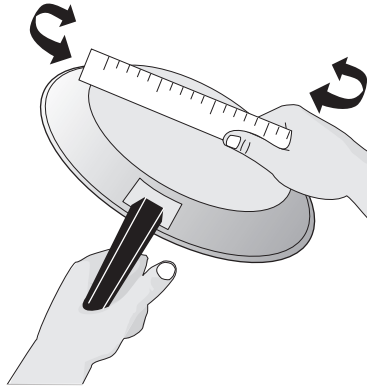
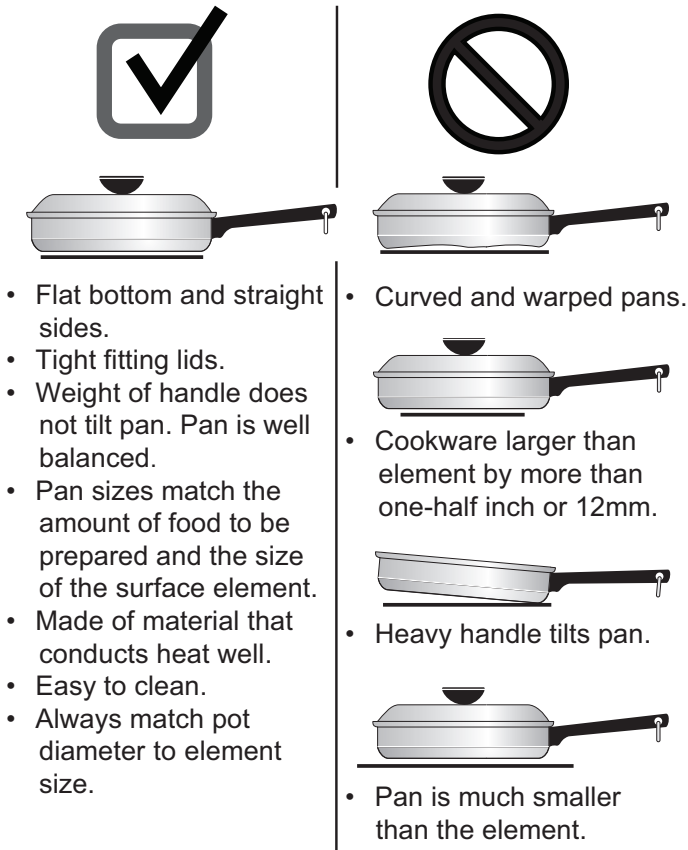

Figure 1: Testing cookware
Figure 2: Proper cookware
The size and type of cookware used will influence the heat setting needed for best cooking results. Be sure to follow the recommendations for using proper cookware as illustrated in “Figure 1: Testing cookware” and “Figure 2: Proper cookware”.
Check for flatness by rotating a ruler across the bottom of the cookware (see “Figure 1: Testing cookware”). Cookware should have flat bottoms that make good contact with the entire surface of the heating element.
2. Push in and turn the surface control knob in either direction (Figure 1) to the desired setting (refer to the “Suggested radiant surface element settings” in Table 1).
Start most cooking operations on a higher setting and then turn to a lower setting to finish cooking. The surface control knobs do not have to be set exactly on a particular spot. Use the graphics provided as a guide and adjust the control knob as needed (see Figure 1).
2. Push in and turn the surface control knob clockwise to begin heating both the inner and outer elements. If only the inner element is needed for smaller cookware, push in and turn the knob counter-clockwise (see Figure 2).